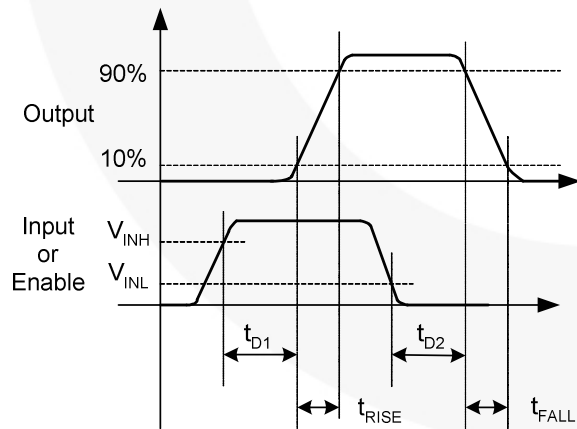
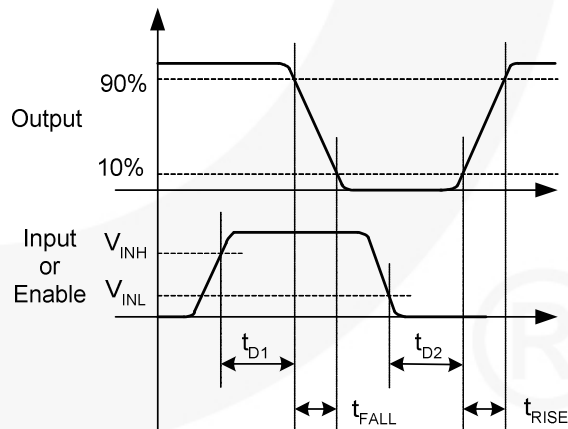

Figure 8. Non-inverting
Figure 9. Inverting
- 11. See Timing Diagrams of Figure 8 and Figure 9.